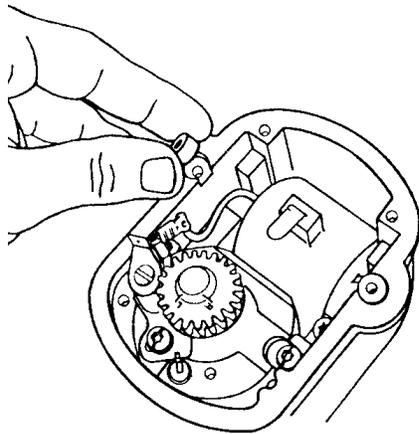

Figure 7.15
- B. Align the "L" or "R" (depending on the rotation of the magneto - look at data plate) on the rotor gear so that it points up, toward the high tension lead of the coil. Secure the rotor shaft to prevent rotation during assembly. Alignment of rotor gear is critical. See Figure 7.15).